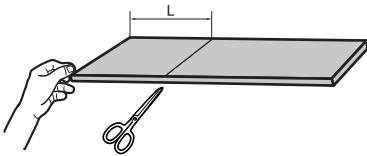

FIG. 23
2. Mark a line on the provided insulation panel according to the measured width in Step 1, then cut out the insulation panel along the line (FIG. 23).